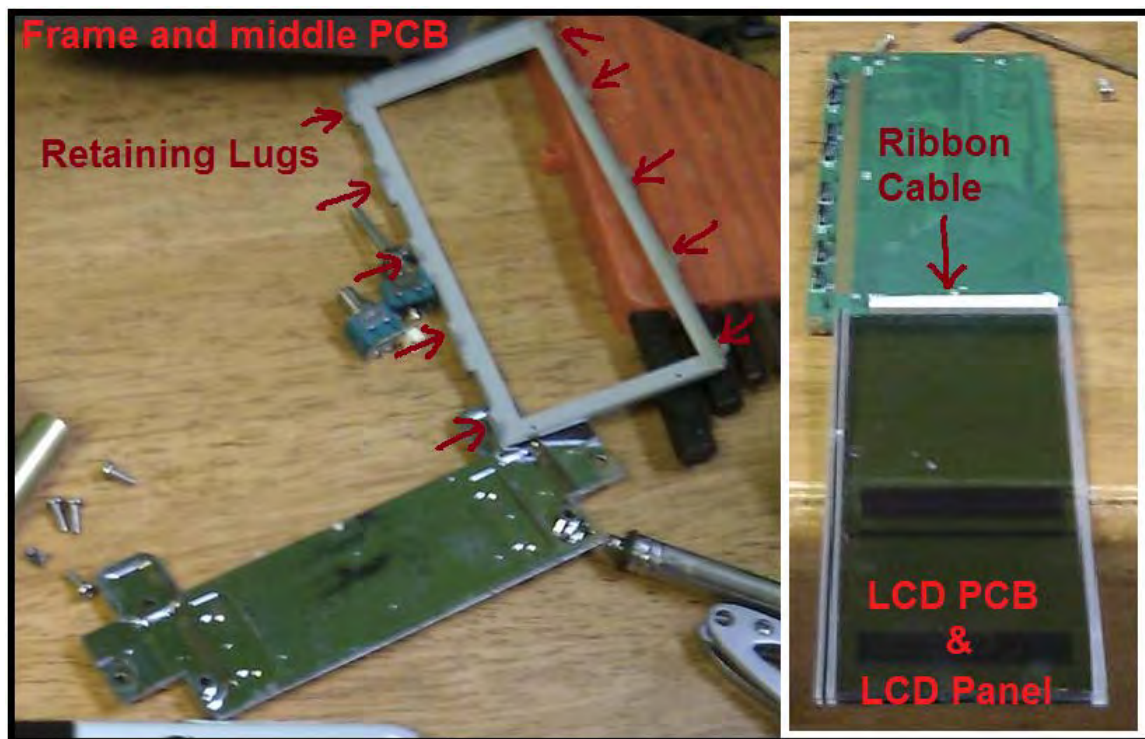

Figure 30 Complete disassembly of middle PCB and LCD Panel
4. Remove the metal shield by carefully bending the retaining lugs (see Figure 30)
5. Very carefully flip the exposed LCD over to one side so it is off the PCB. It will still be attached to the PCB by a short ribbon cable at one end, be extremely careful not to damage this cable (see Figure 30).